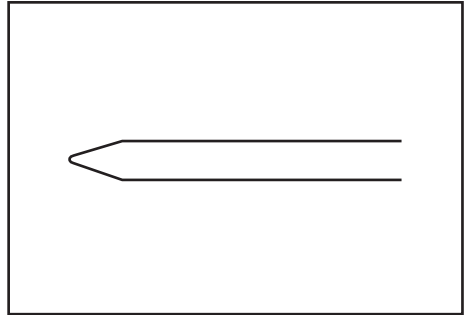
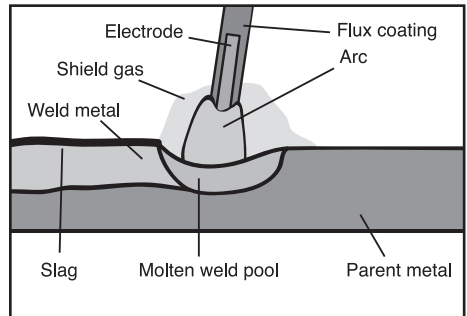

FIG.18
FIG.19
The general rule is to grind the point's length to match the electrodes diameter (Fig.18). However for low amperage/smaller diameter electrodes the points length should be double the electrodes diameter (Fig.19).
9.6 ARC WELDING, FILLER ROD (ELECTRODE) SELECTION - FIG. 19